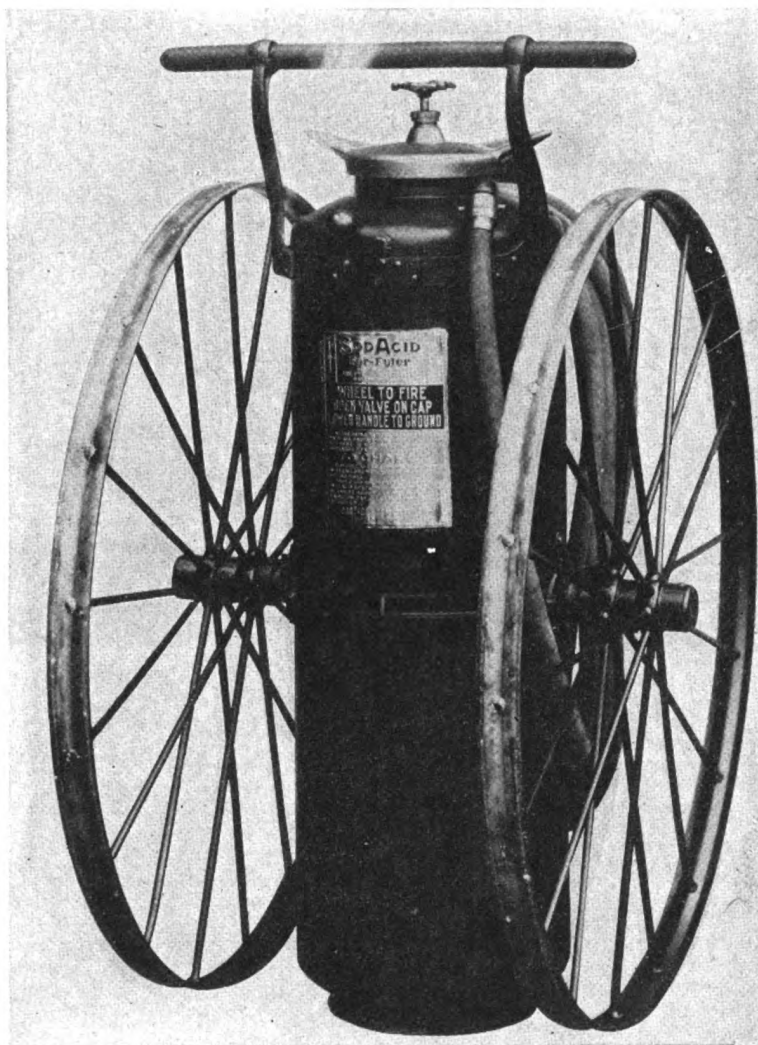

Figure 20. Narrow-tread hand-drawn soda-acid engine, 40-gallon capacity.
c. 40-GALLON HAND-DRAWN SODA-ACID CHEMICAL ENGINE. The 40-gallon hand-drawn soda-acid chemical engine (figs. 20 and 21) operates the same as the 2½-gallon soda-acid type; however, it has greater capacity and is mounted on wheels. The narrow-tread engine has an over-all width of 30 inches to negotiate narrow passageways inside buildings; the standard-tread engine is 48 inches wide over-all and is designed for outdoor use.